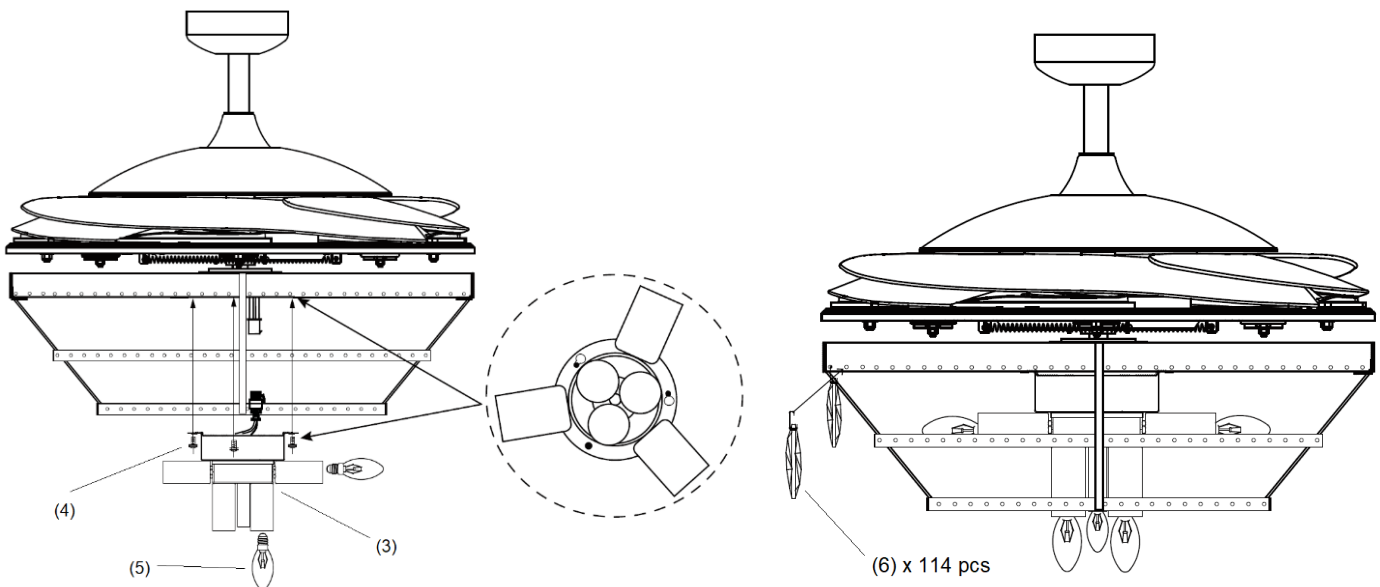

Fig. 7
4. Connect the quick connector to the lamp holder part (3). (Fig. 7)
5. Secure the lamp-holder part (3) to the light kit bracket by tightening the 3 screws (4). Do not over-tighten.
6. Install the globes (5) to the lamp holders. Do not exceed the maximum power rating.
7. Install the decorative drops (6) to the light kit.